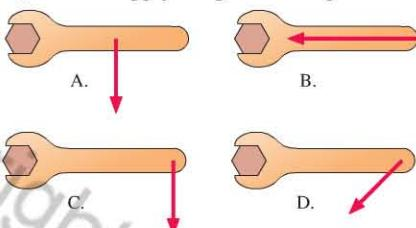

FIGURE Q7.16
16. I A nut needs to be tightened with a wrench. Which force shown in Figure Q7.16 will apply the greatest torque to the nut?